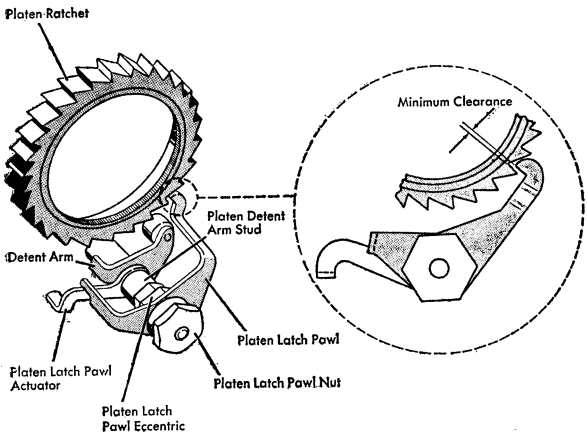

Figure 2. Platen Latch Pawl Eccentric Adjustment
- Place the detent release lever in its forward position to obtain the proper position of the platen by means of the detent roller. Move the detent release lever to its rear position and check for a minimum clearance between the engaging surface of the platen latch pawl and a platen ratchet tooth. Minimum clearance may be obtained by rotating the platen latch pawl eccentric (Figure 2).